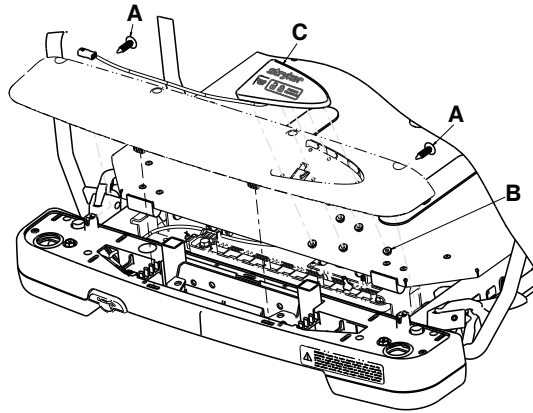

Figure 35 – Operator control lockout board replacement
4. Using a slotted screwdriver, remove the two panel fasteners (A) (Figure 35). Save the panel fasteners.